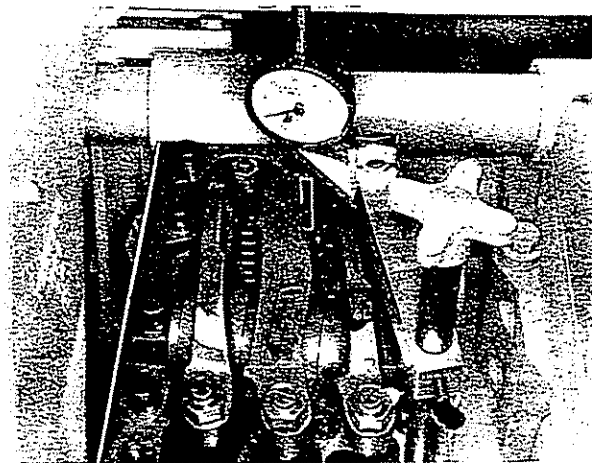

Fig. 2-62, (K21920). Dial indicator in place — extension in contact with plunger
2. Set up 3375007 Support Block on the rocker lever housing, of the cylinder selected, with the 3375005 dial indicator extension on the injector plunger top. Fig. 2-62.